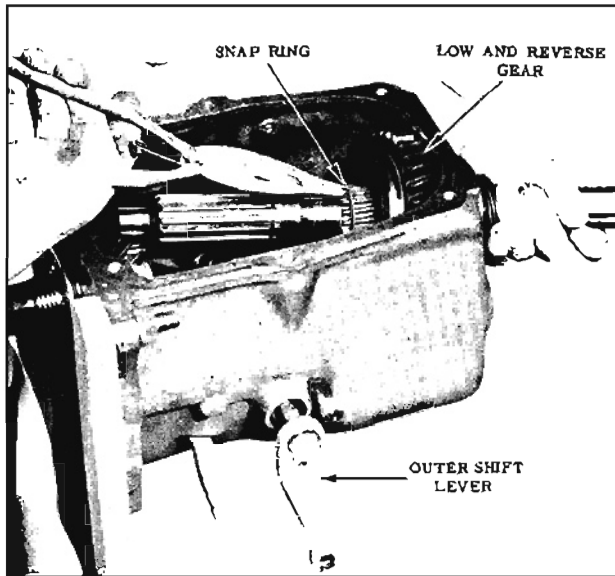

Fig. 7-12 Low and Reverse Gear Snap Ring
9. Remove the low and reverse gear retaining ring and slide the gear off the main shaft. (Fig. 7-12)
11. Loosen the outer shift lever bolt. Position the lever so that the inner shift levers are vertical and remove the outer shift lever. (Fig. 7-12)